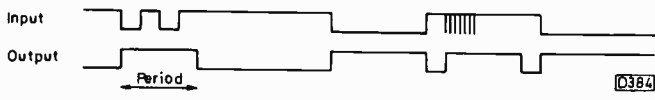

Fig. 19: Direct-coupled monostable waveforms.
(2) *Direct coupled.* The input pulse has to be shorter than the output pulse time, otherwise the output stays at 1 until the input returns to 1 (see Fig. 19).